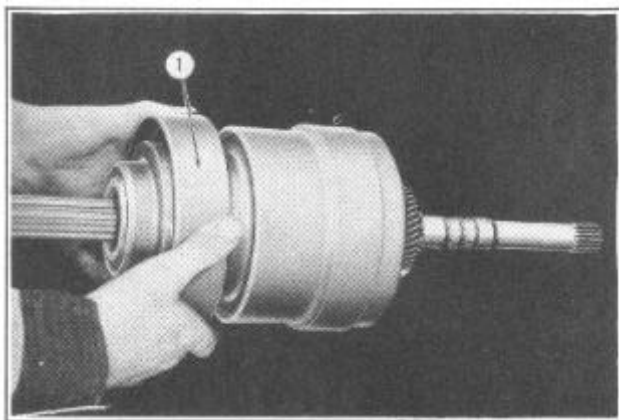

FIGURE 100
9. Remove the forward brake drum assembly by sliding it rearward on the main-shaft, Figure 100.